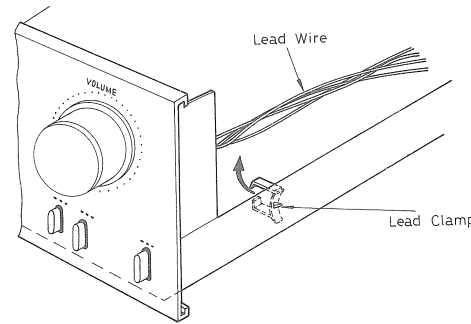

Fig. 3
5. Remove lead wire from lead clamp, as shown in fig. 3.